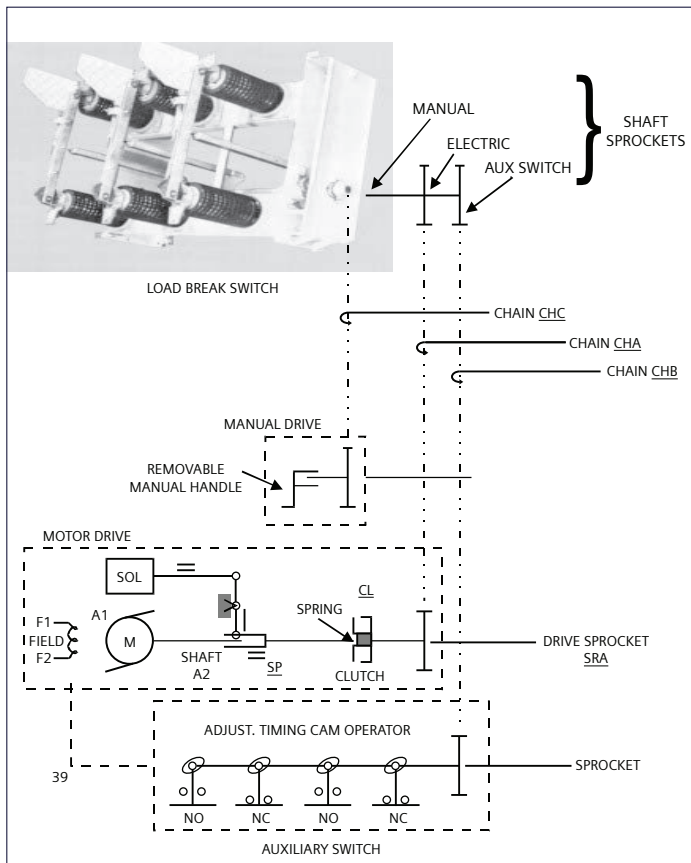

Figure 50: Figure 50: Motor Drive System Diagram
The drive system is demonstrated by the Motor Drive System Diagram (Figure 50).
Movement of the solenoid (SOL) compresses spring (SP) and engages clutch (CL). Motor rotates sprocket (SRA) which through its chain drive (CHA) rotates the interrupter switch drive shaft to close the load break switch (Figure 50).